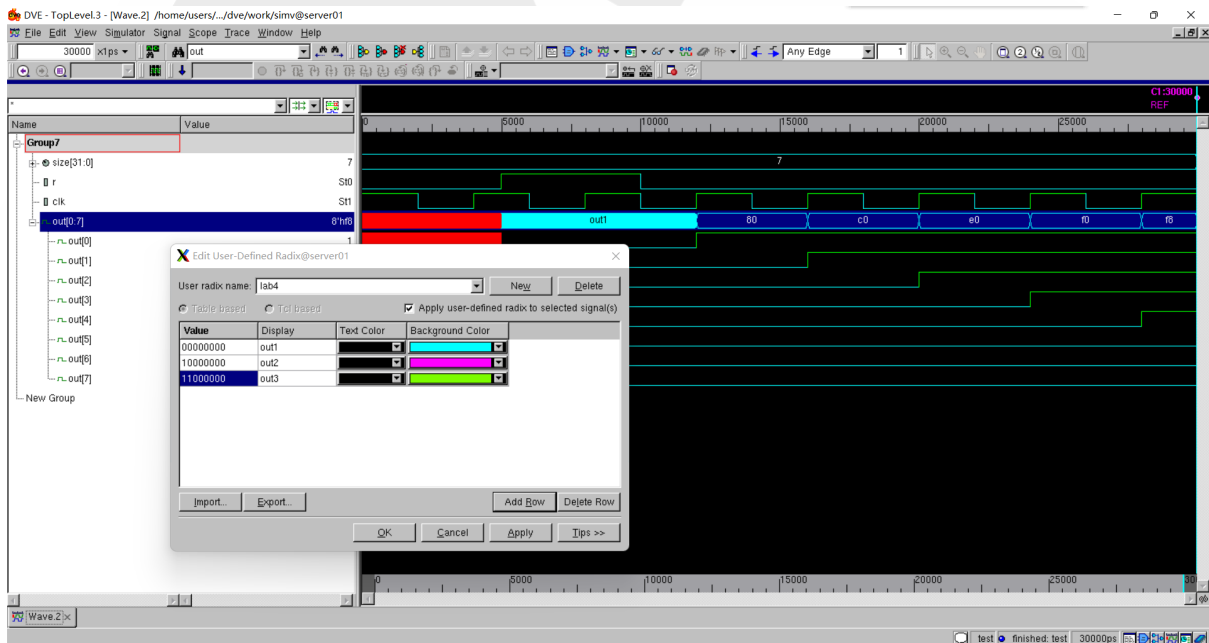

Figure 18: The Edit User-defined Radix dialog box with Wave view window.
8. Select the Apply user-defined radix to selected signal(s) checkbox (Figure 18). The user-defined radix is applied to the selected signal in the Wave view.